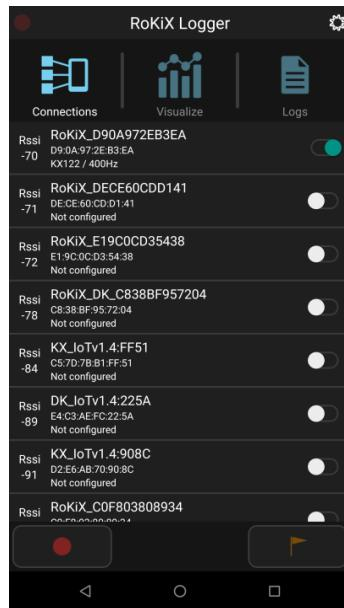

Figure 10: *RoKiX Android App*
*RoKiX Android App*'s (Figure 10) purpose is to collect device data over Bluetooth low energy connection. Currently this application is available for Android devices in the Play store or GitHub. The application is also bundled with the *RoKiX IoT Platform* and located in the folder \Documents\RoKiX\RoKiX-Android-App.